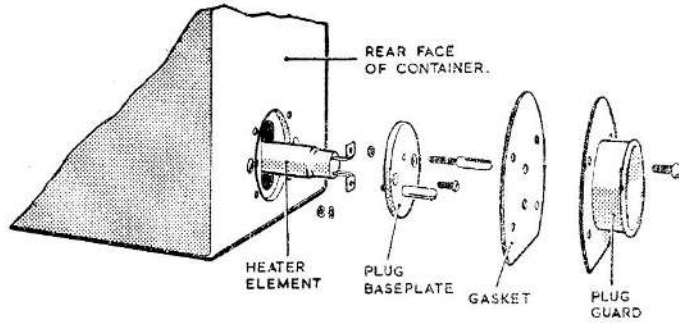

Fig. 2. Element and plug, exploded view
3. The container is designed to plug into a two-pole wall socket in the aircraft galley and no switch is fitted on the container. Control should be by a switch fitted with an indicator lamp. A plug is fitted at the rear of the container, and the heating element is held secured at the back of the plug baseplate as shown in fig. 2. No overheating cut-out is fitted so that care must be exercised to ensure that the heater is not switched on when the container is empty.